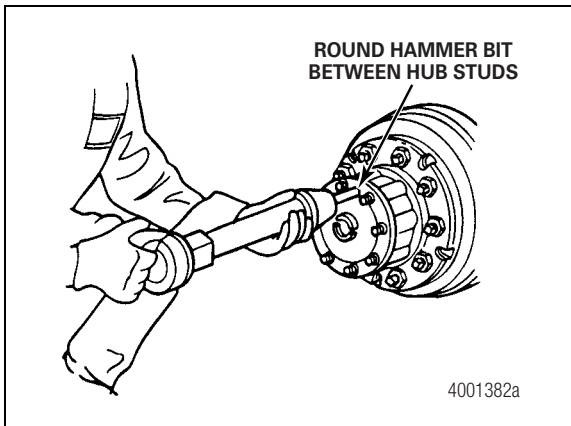

Figure 3.7
- Place the round hammer bit against the axle shaft, flange, between the hub studs. Operate the air hammer at alternate locations between the studs to loosen the tapered dowels and the axle shaft from the hub. Figure 3.7.